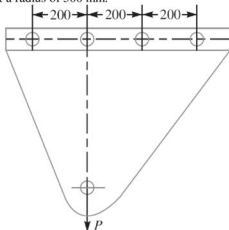

Figure 1 (All dimensions are in mm.)
- (b) Find the value of P for joint shown in Figure 1, based on a working shear stress of 100 MPa for rivets. Each of four rivets is of 20 mm diameter. **07**